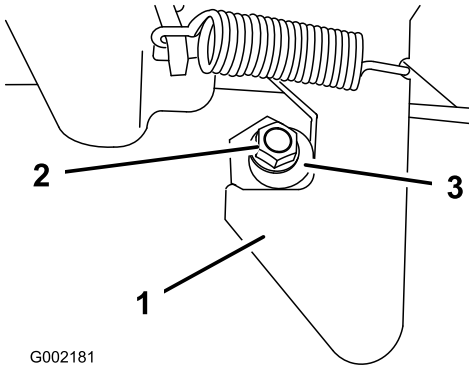

Figure 68
1. Loosen the locknut on the end of the latch post (Figure 68).
2. Rotate the latch post clockwise until it is snug against the hook portion of the latch (Figure 68).